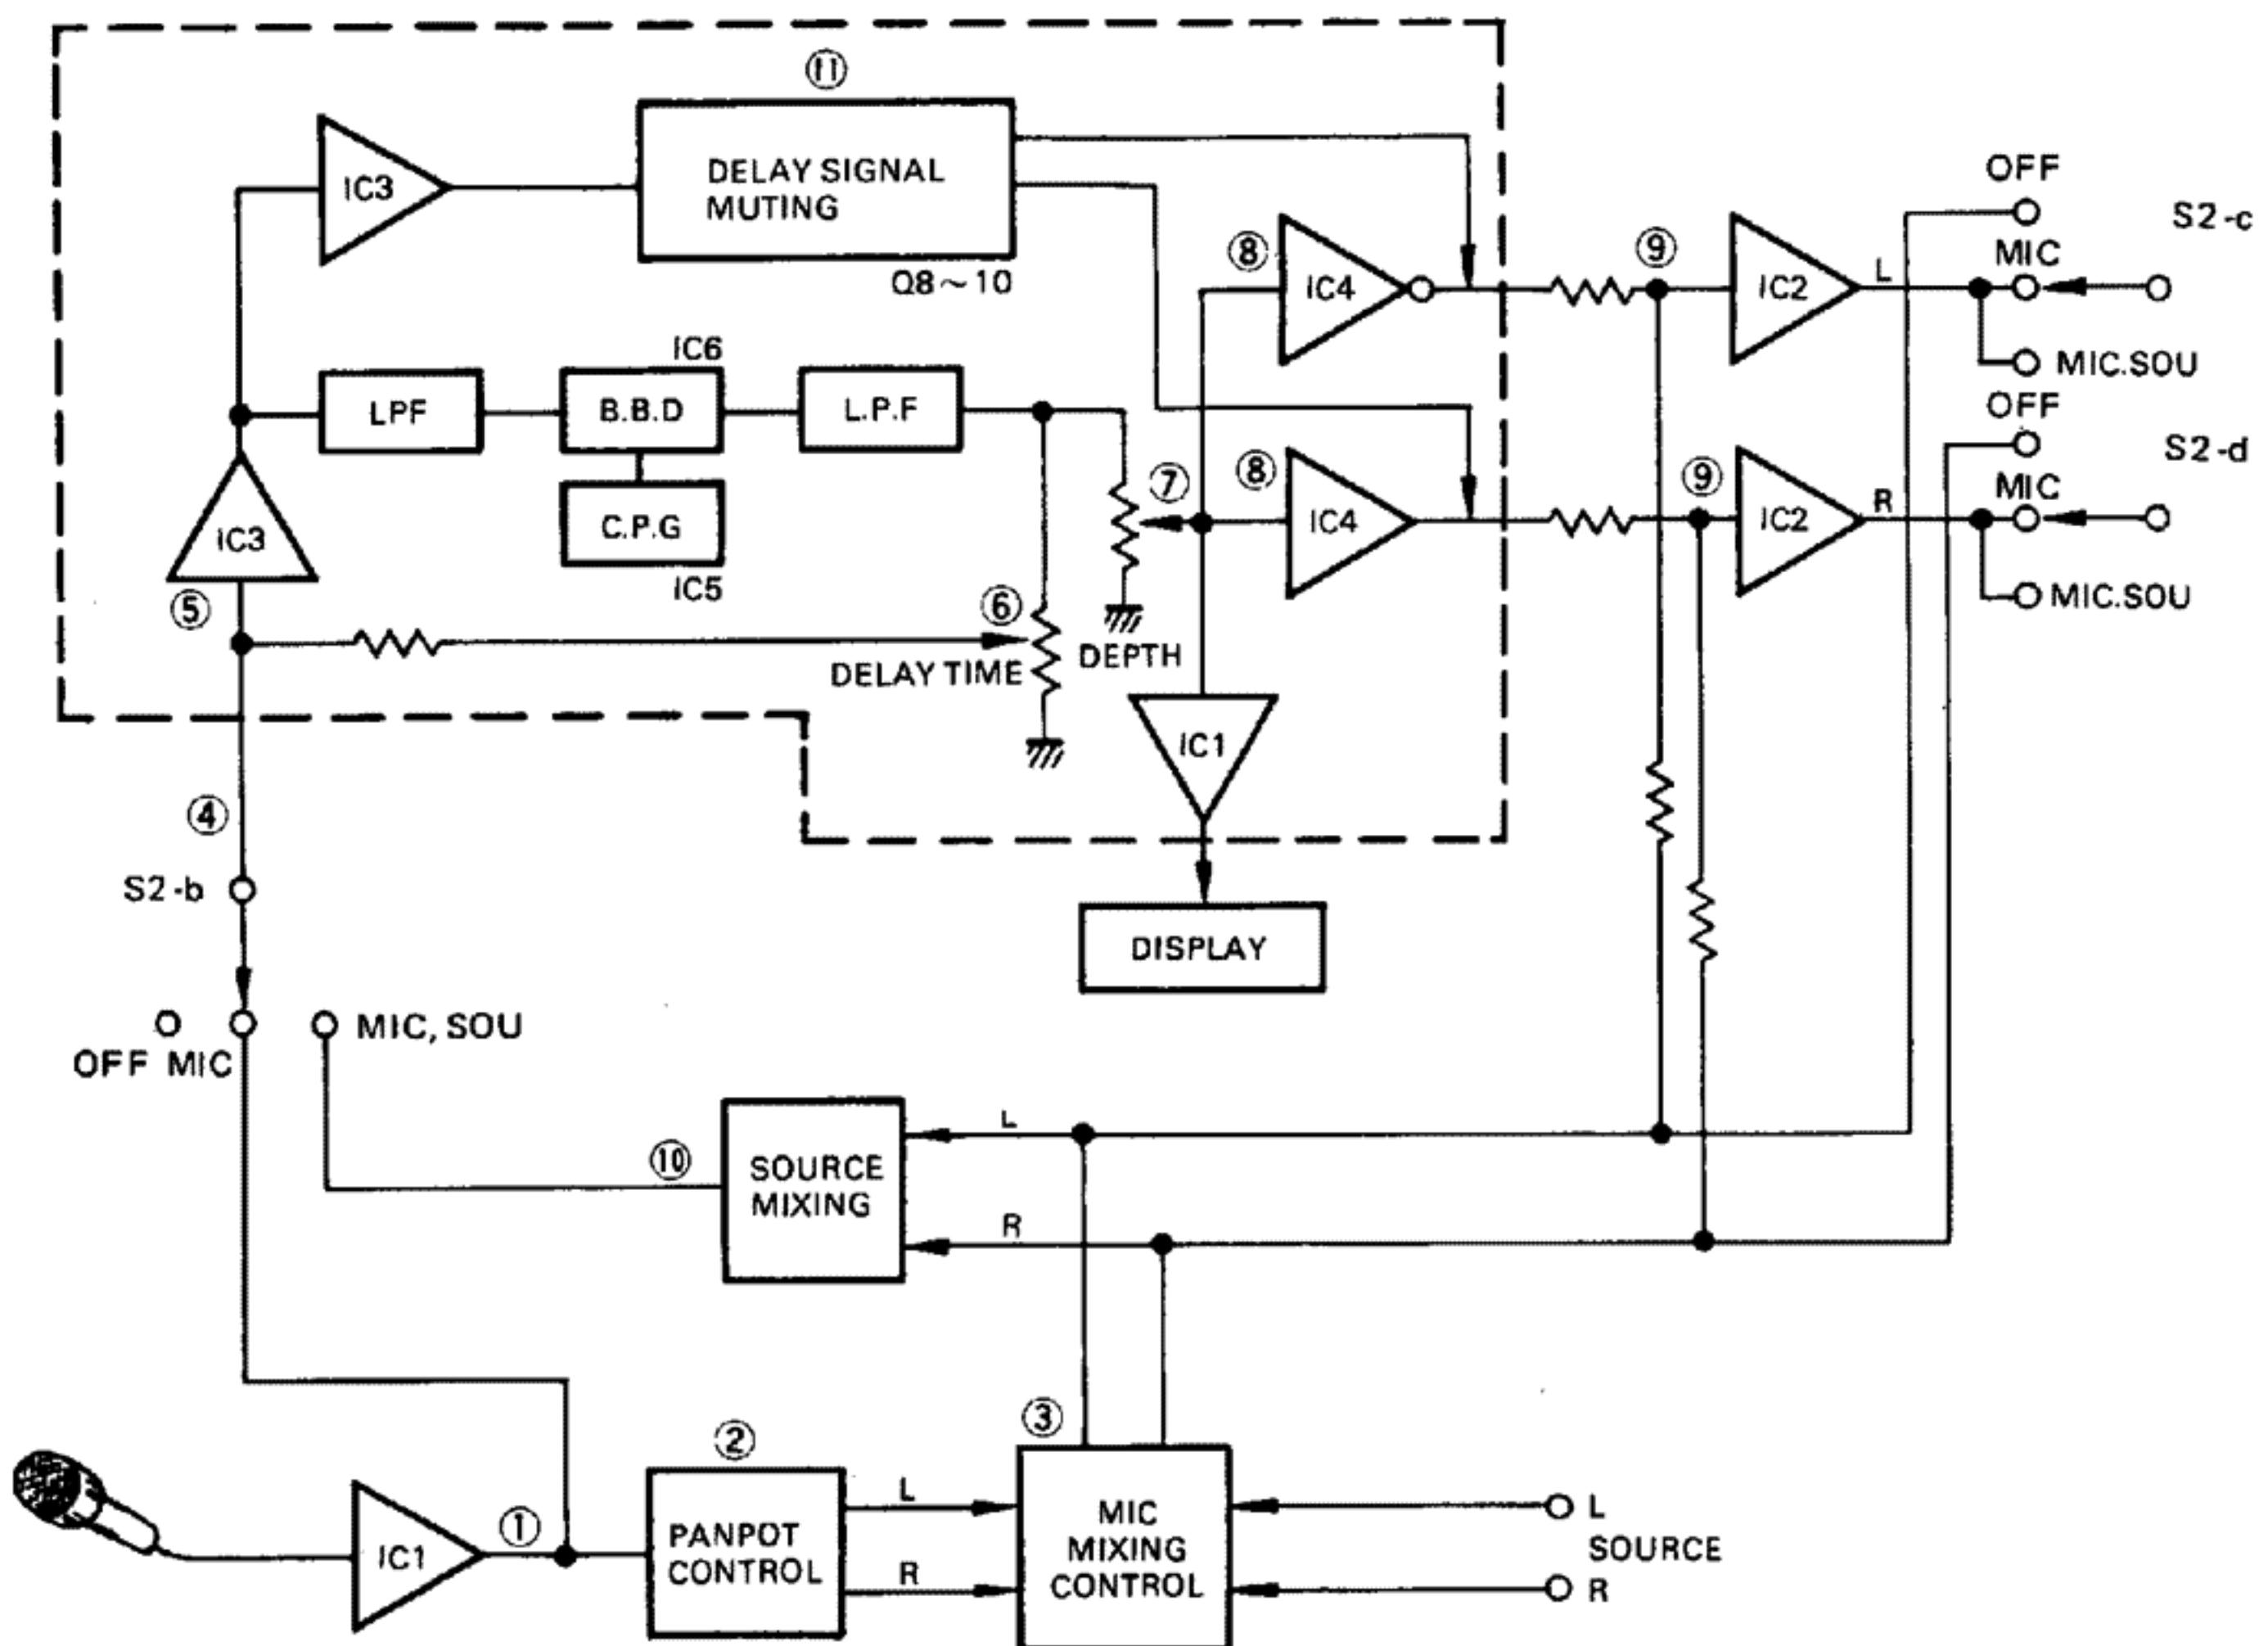

Fig. 1 <Reverberation circuit>
The reverberation circuit used in the Super Eleven has a monaural configuration using a B.B.D. (Bucket Bridge Device) and has the mixers and dividers shown in figure 1.
Figures 3 and 4 show clock pulse generator operation and its output waveforms. FETs in the B.B.D. are turned on and off sequentially according to the clock pulse signal. The delay time of each stage is $T/2$, and the total delay time of the B.B.D. is $N/2f_{cp}$, where f_{cp} (clock pulse frequency) = 40 kHz and N (number of B.B.D. elements) = 2048 in the Super Eleven. With the DELAY TIME control (⑥ in Fig. 1), the delay time can be doubled.